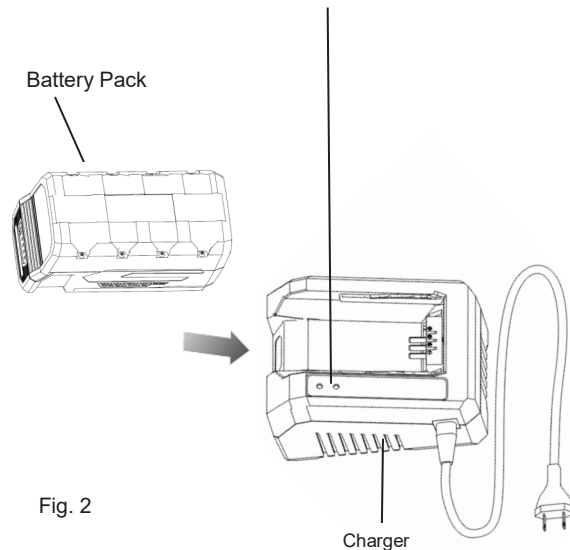

Fig. 2
- Charger lights will be illuminated. (Fig. 2)